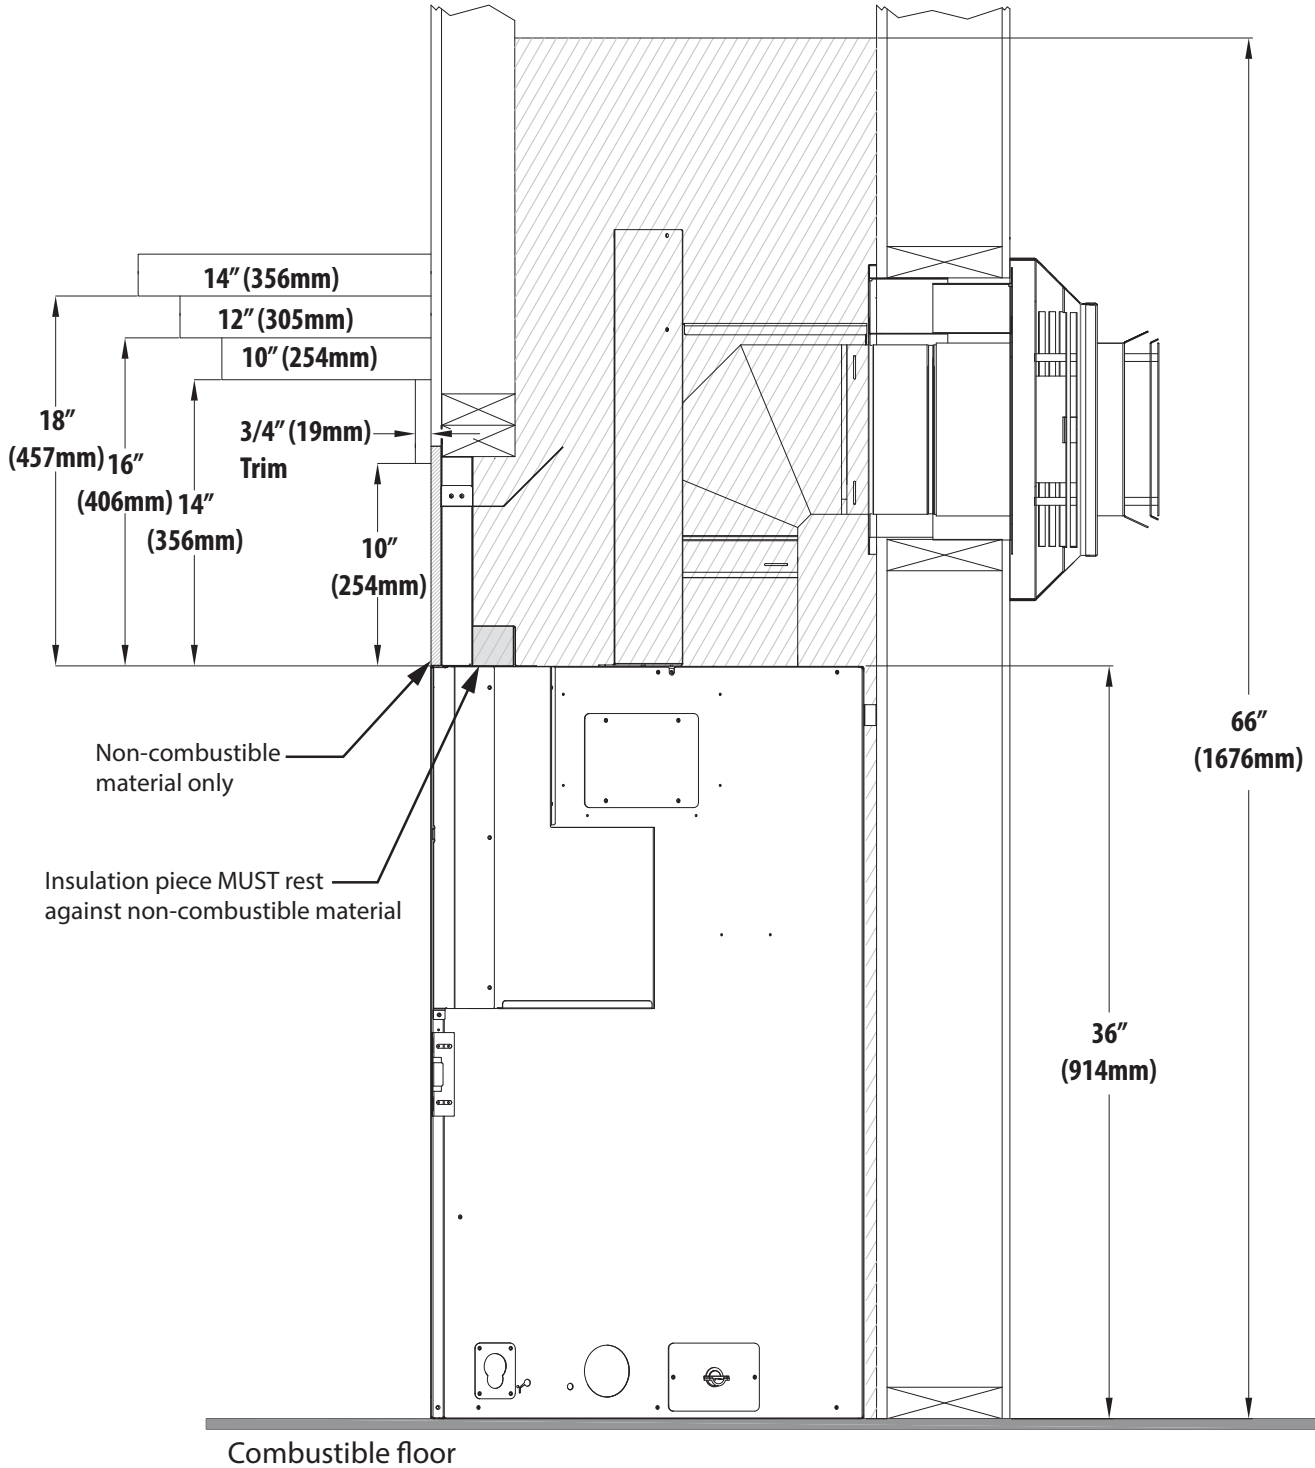

Figure 4.1, Combustible Mantel Requirements
- **Combustible Mantel Projections** - As referenced in Figure 4.1, the 3/4" mantel trim can start at 10" (254mm) above the top of the appliance with a 10" (254mm) mantel starting at 14" (354mm) above the top of the appliance. Mantel projections can increase 1" (25mm) of depth for every 1" (25mm) of height starting at the 10" (254mm) mantel.